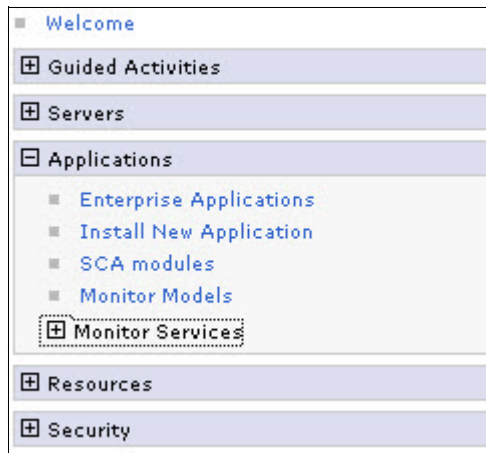

Figure 8-3 Install New Application menu
1. Using the WebSphere Business Monitor server Administrative Console, expand **Applications** and click **Install New Application** (Figure 8-3).